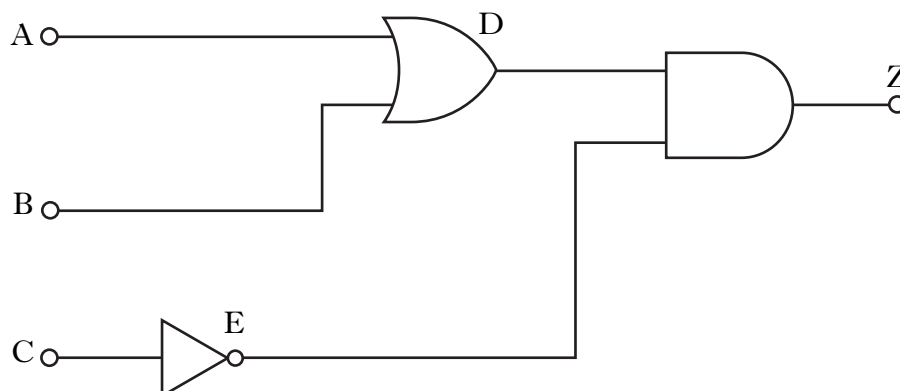

Figure Q2(a)
2. The logic diagram for a security system is shown in Figure Q2(a).
(a) With reference to the logic diagram shown in Figure Q2(a):